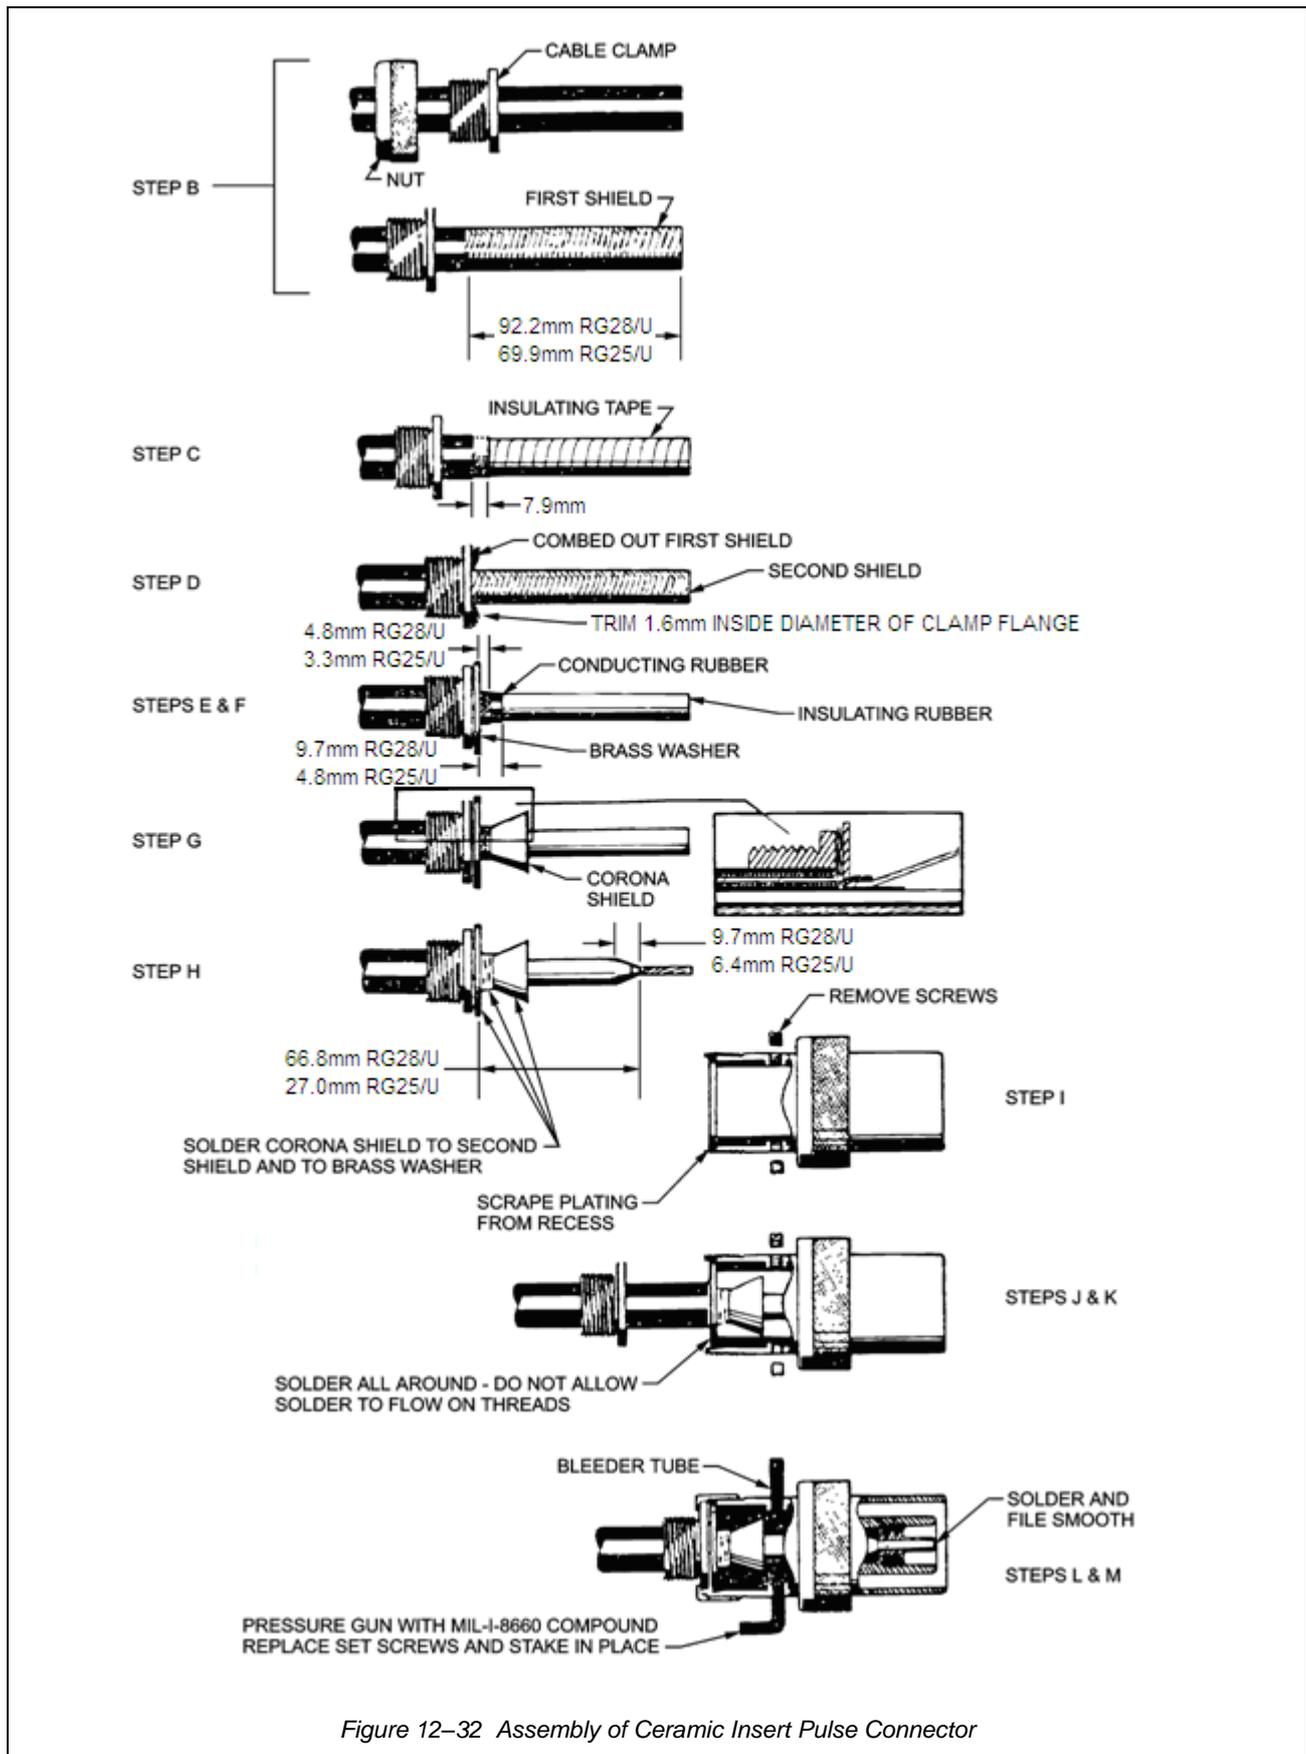

Figure 12-32 Assembly of Ceramic Insert Pulse Connector
**24.** When attaching ceramic insert pulse connectors to coaxial cable (see Figure 12-32), use the following procedure: